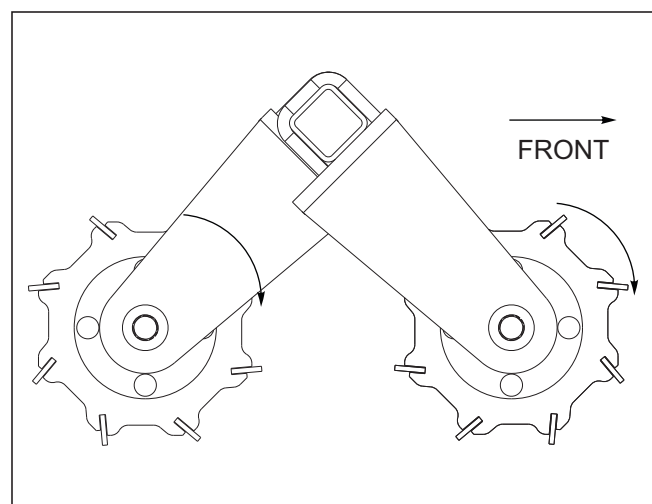

Figure 3-10: Double Reel Direction
8. Attach flat bar reels with angled blades as shown See Figures 3-10.